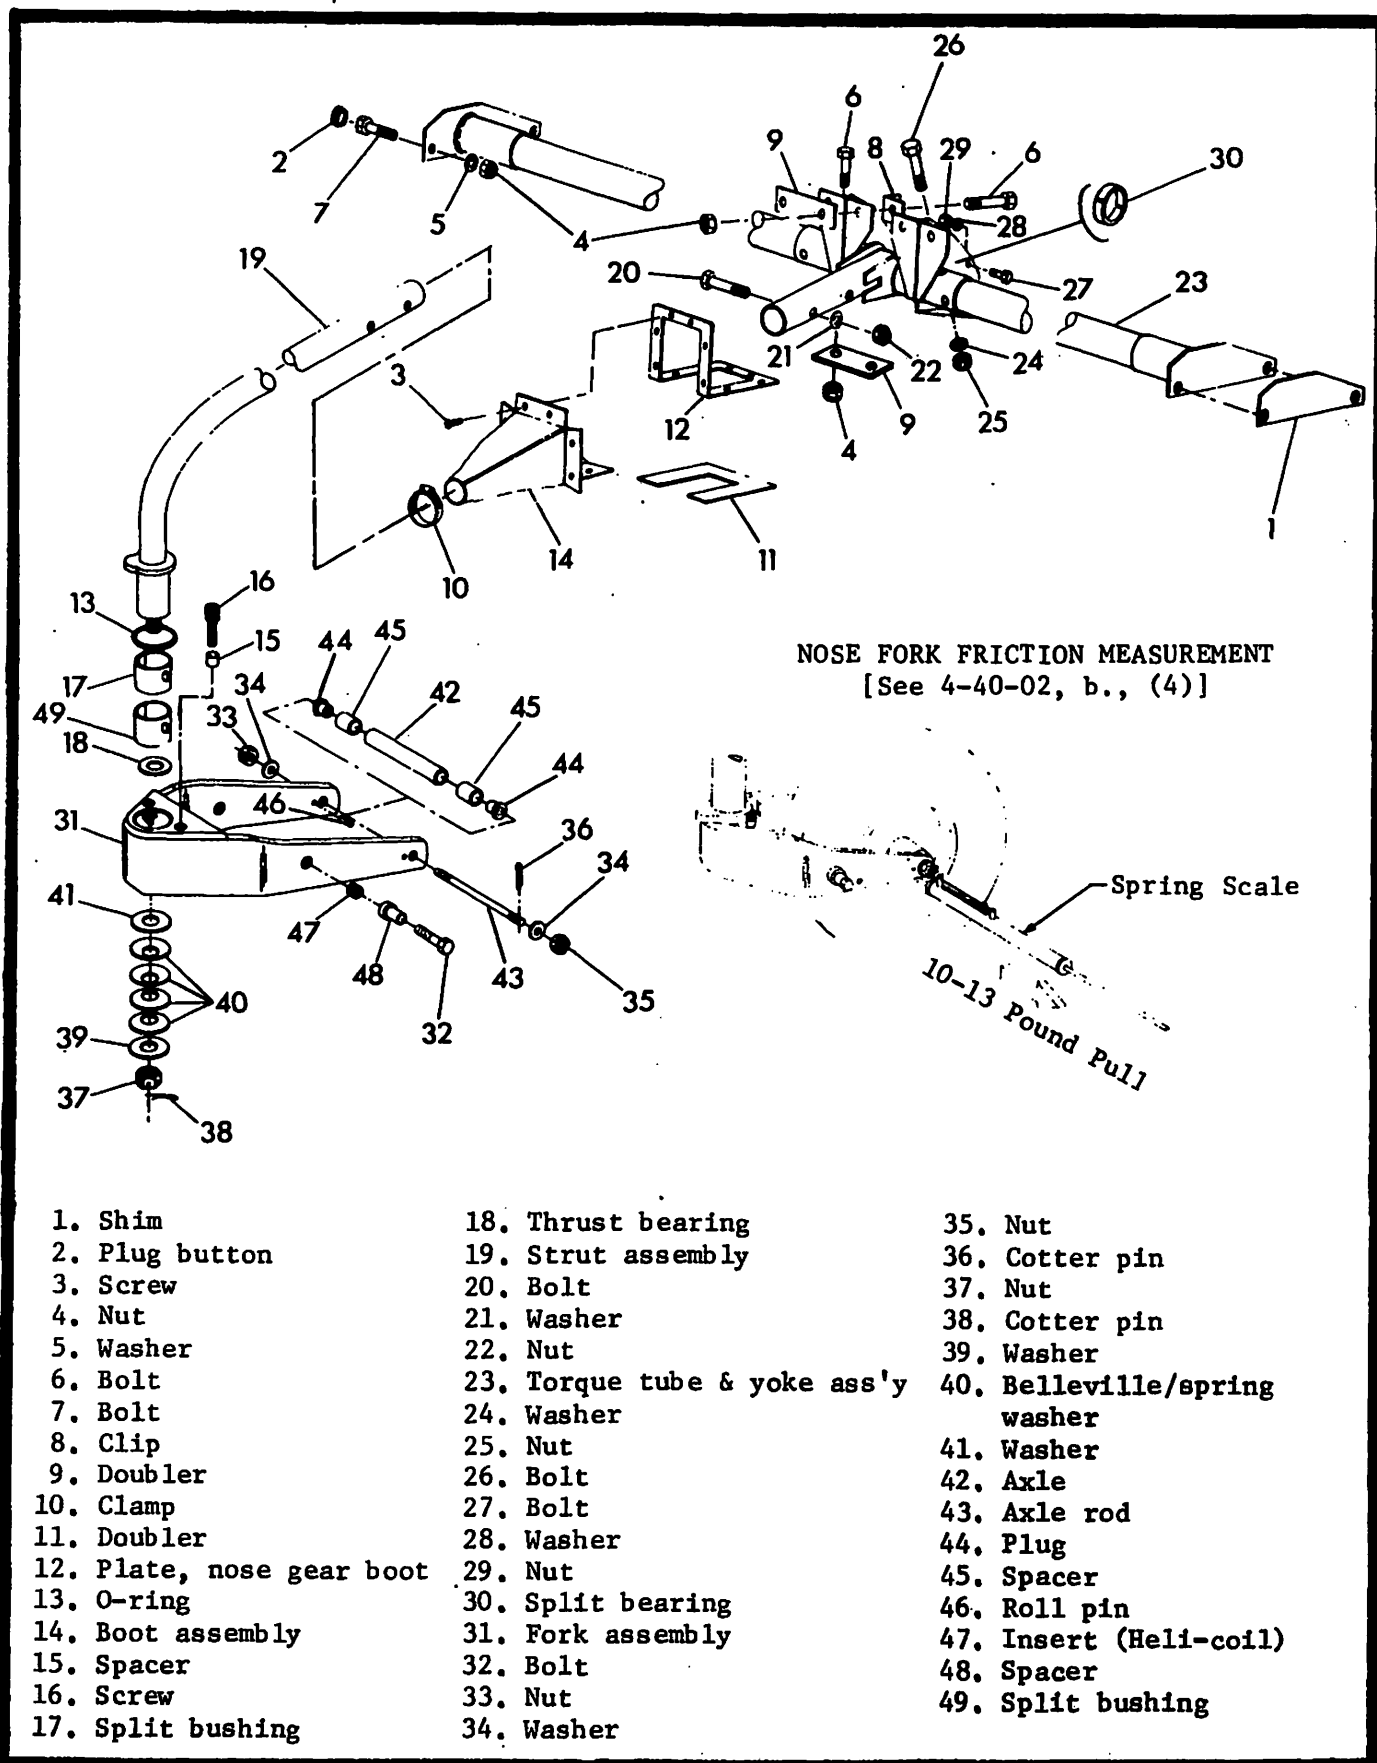
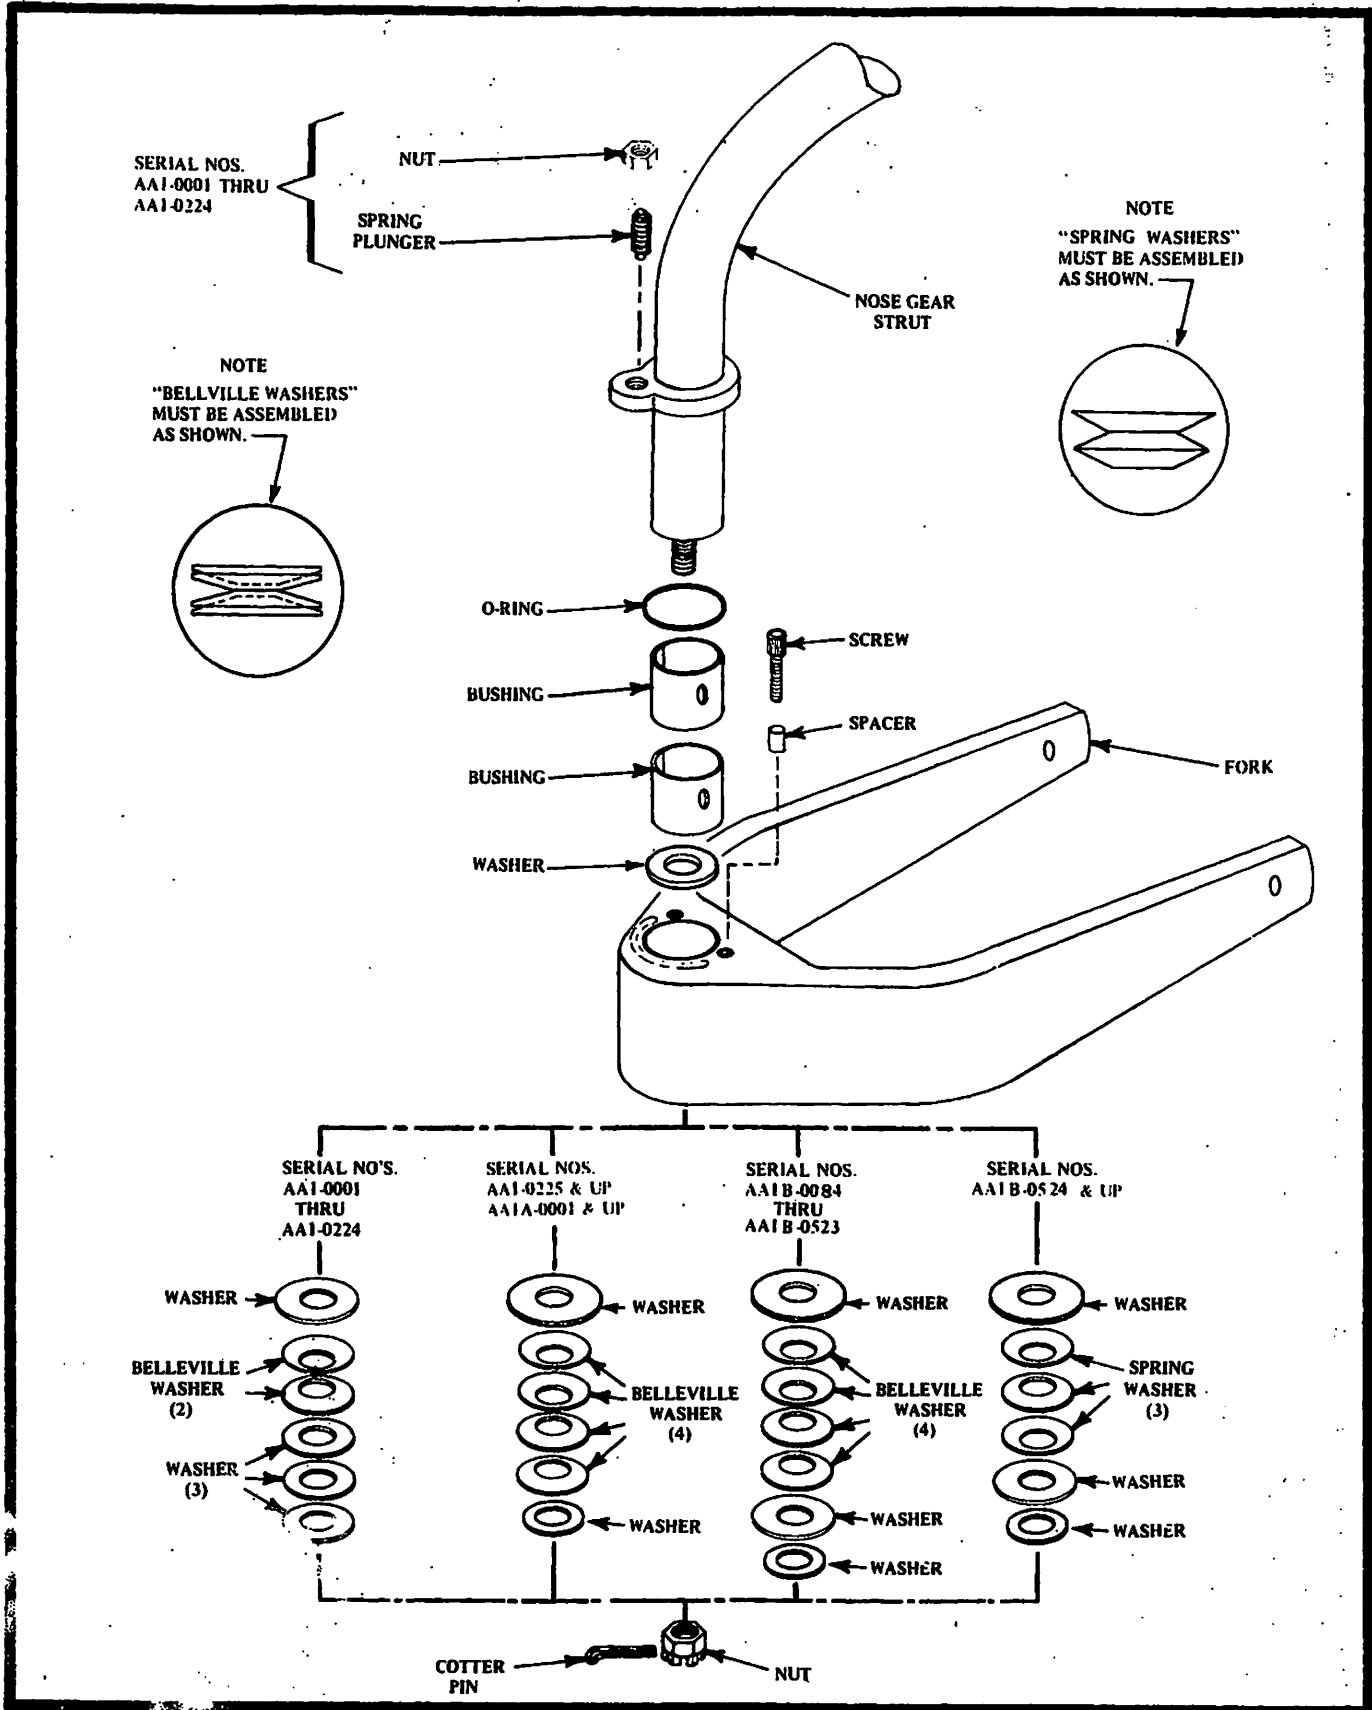

Figure 4-4. Nose Landing Gear Assembly, exploded view
Figure 4-4A. Nose Landing Gear Fork Assembly
- (1) Remove the weight from the nose gear by either tying down the tail or placing a suitable support under the front of the fuselage.
- (2) Remove the cotter pin, (38, Figure 4-4), nut (37) washers (39, 40 & 41), and nose fork (31) from the strut (19).
- (3) Remove the nose gear boot clamp (10), boot to fuselage attaching bracket (12), and slide boot (14) down nose gear strut (19).
- (4) Remove the attaching bolts (20) and slide the strut (19) from the torque tube and yoke assembly (23).
- (3) Remove the fuel gauge moldings and the upholstery side panels and fiberglass insulating material from the left and right hand forward inside panels by removing the sheet metal screws that attach these parts to the side panels. Do not disconnect any wiring from the fuel gauge covers; simply drape the covers over the outside of the fuselage protecting the wing root surface from scratching with a suitable cloth.
- (4) Remove the upper and lower cowling (See Section 3-40-01).
- (5) Disconnect the rudder return springs by unbolting the eye bolts from the forward face of the firewall. Note that additional washers are used under the left hand eye bolt for proper rudder pedal centering and rudder trim.
- (6) Remove the nuts that secure the right forward rudder bar attach bracket to the floor. Lift the rudder bar up and aft to provide clearance for removing left brake cylinder attach bracket on co-pilot's side from the floor.
- (7) Remove the nuts that attach the brake cylinder brackets to the floor. Lift brake cylinders free from the floor and allow pedals to rotate aft.
- (8) Remove clevis pins from left and right brake cylinder attachment to rudder pedals on pilot's side.
- (9) Disconnect one end of the parking brake chain by cutting the wire which attaches it to the link on the master cylinder (pilot's side).
- (10) Move the left and right master cylinders on the pilot's side up as high as possible and against the firewall and secure them temporarily in this position.
- (11) Remove the screws and nuts which attach the throttle cable clamps to the instrument panel brace.
- (12) Remove the nuts that attach the T-column support to the floor. Lift the T-column and support assembly from the studs which protrude through the floor and allow the assembly to come as far aft as possible.
- (13) Remove the bolts (6, Figure 4-4) that secure the center torque tube assembly bearing supports to the floor and firewall.
- (1) After the torque tube (23, Figure 4-4) is installed in the fuselage, but before the mounting bolts (6 & 7) are installed, slide the torque tube assembly (23) to one side of the fuselage and note the clearance between the other end of the torque tube assembly and the inside of the lower engine mount extrusion. The torque tube fit is to be adjusted by using one of the various thickness shims (1). Shim as required to arrive at a minimum clearance between the torque tube end fittings and the lower engine mount extrusions.
- (2) Torque the center torque tube bearing support bolts (6) at the firewall and the cabin floor to 185-195 inch pounds and torque the bolts (7) that attach the ends of the torque tube assembly to the fuselage sides to 300-350 inch pounds.
- (3) Install the lefthand brake cylinder attach bracket on the copilot's side before installing the forward rudder bar or sufficient clearance will not be available under the rudder bar to install the brake cylinder bracket rear retaining nut and washer.
- (4) Attach the left and right brake cylinder, on the pilot's side, to the floor, then attach the parking brake chain to the parking brake link on the master cylinder. Use .032-inch stainless steel safety wire and make a double loop through the link and through the chain. Install the two clevis pins which attach the left and right rudder pedals on the pilot's side to the master cylinders.
- (5) If the upholstery side panels and fiberglass insulation have been removed from the forward cabin area, the fiberglass insulation may be recemented to the fuselage side skin with Uniroyal 6306 adhesive or equivalent. This adhesive may also be used to recement the floor covering to the fuselage floor where it has been pulled loose forward of the rudder bars.
- (3) When installing the nose gear boot (14), apply sealant* to all mating surfaces of the boot assembly, honeycomb and firewall.
- (4) Refer to Figure 4-4A for proper installation of Belleville/spring washers when attaching the nose wheel fork to the strut. Tighten nut (37) until a 10-13 pound drag is attained at the axle centerline when the fork is rotated. See Figure 4-4 inset. The cotter pin (38) must be in place for this measurement.